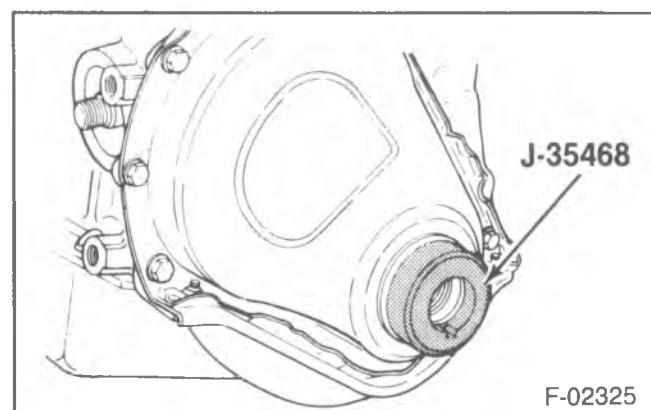

Figure 52—Front Cover Centering Tool
- Apply engine oil to the lips of the seal (158).
- 1. J-35468 to the seal (158). The tool is necessary to properly "center" the front seal on the crankshaft. If the seal is not centered, it may be damaged when the vibration damper is installed, or it may fail prematurely.
- 2. Gasket (166) to the block (115).
- 3. Timing gear cover (157), with the tool, to the block (115) (figure 52).
- 4. Bolts (164).